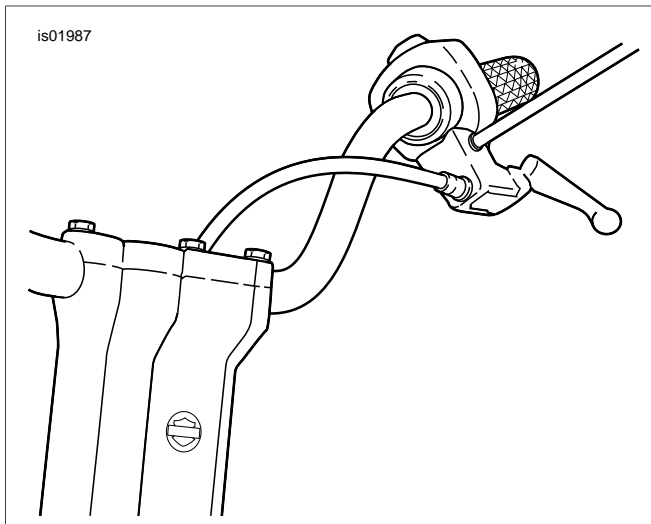

Figure 1. New Clutch Cable Routing
1. See Figure 1. Relocate the clutch cable to the inside of the handlebars as follows: